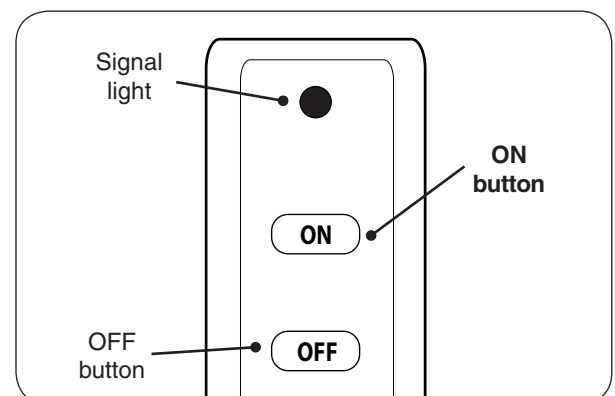

Fig. 41-3 Remote transmitter detail
4. Locate the remote transmitter and press the **ON** button (see Fig. 41-3). The ignition sequence will begin.